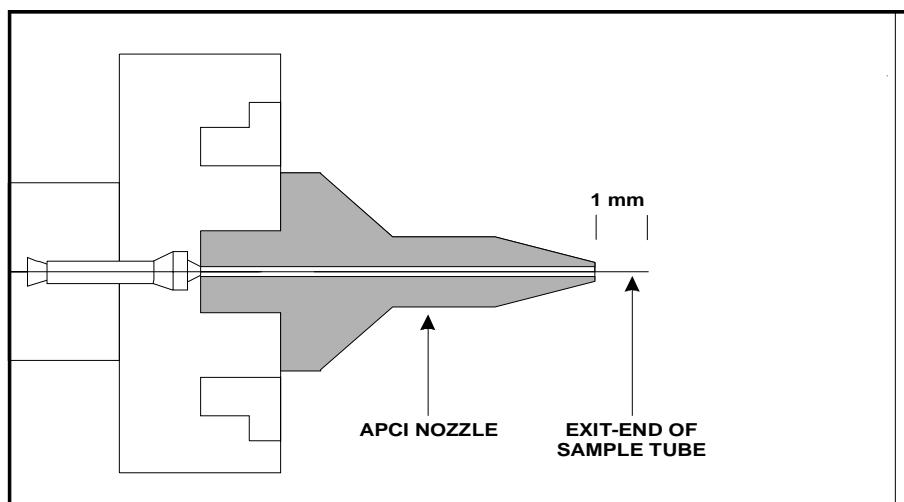

Figure 5-6. Proper position of the exit end of the APCI sample tube
10. Use a fused-silica cutting tool to cut the exit end of the sample tube so that approximately 1 mm protrudes past the tip of the APCI nozzle. See Figure 5-6.